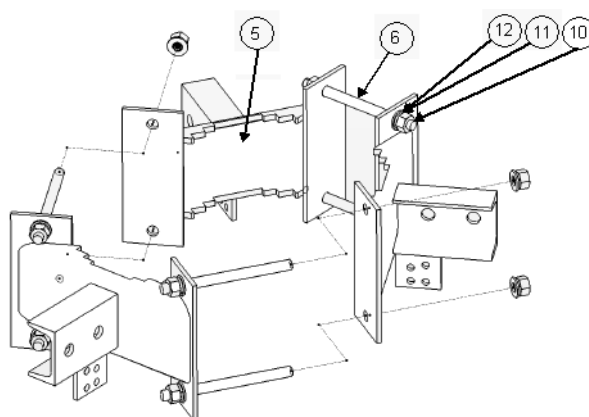

Figure C-13: Partially Assembling 3 Sector Clamp
- 3 Assemble two sectors of each of the 3 clamps as shown in Figure C-13 using bolts, washers, spring washers and nuts from the list in Table C-3.